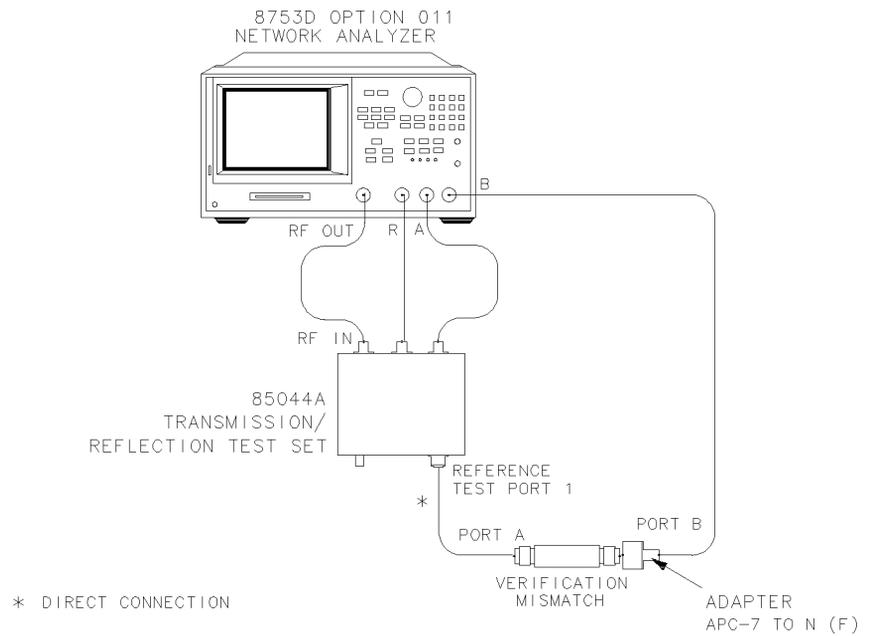

Figure 5-13. Mismatch Device Verification Setup
- 6 When all measurements are complete, replace the attenuator with the verification mismatch, as shown in Figure 5-13.